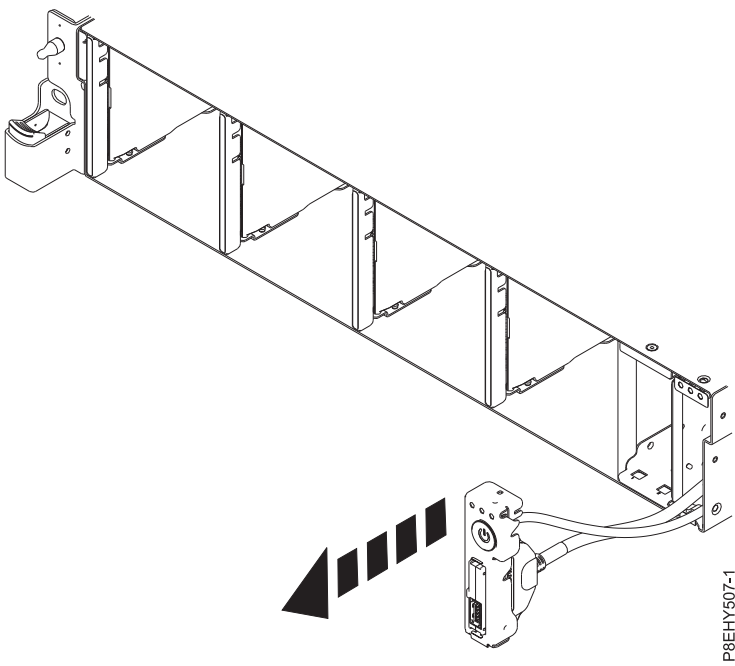

Figure 68. Pull out the power switch and cable
9. Pull the power switch from the system. See Figure 68.